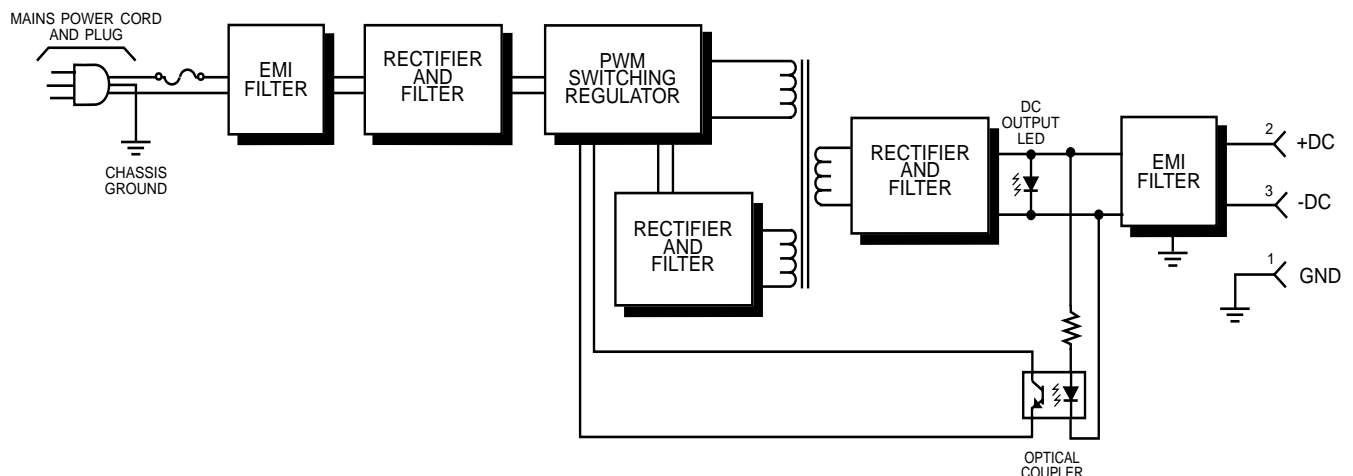

Figure 3 Model 711 Power Supply block diagram.
5.1 GENERAL The circuit description is intended to familiarize you with the Model 711 for engineering and applications use. Repairs to the unit should not be attempted as they will expose you to dangerous voltage levels. Please refer to the block diagram, Figure 3, when reading this technical description.